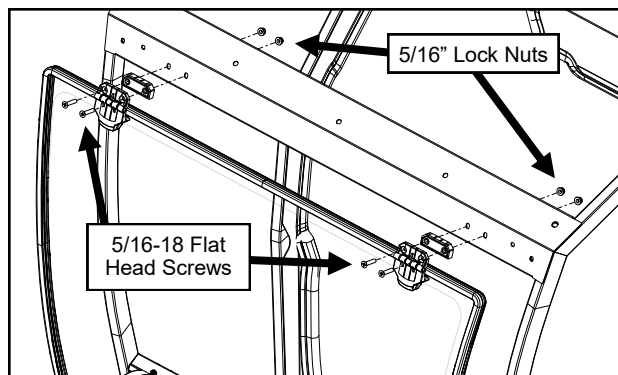

Fig. 12.1 (Windshield Assembly)
- 12.1** With assistance, set the windshield up to the side frames and secure it to the windshield support using the hinge spacers and hardware. See Figure 12.1. Leave hardware loose.